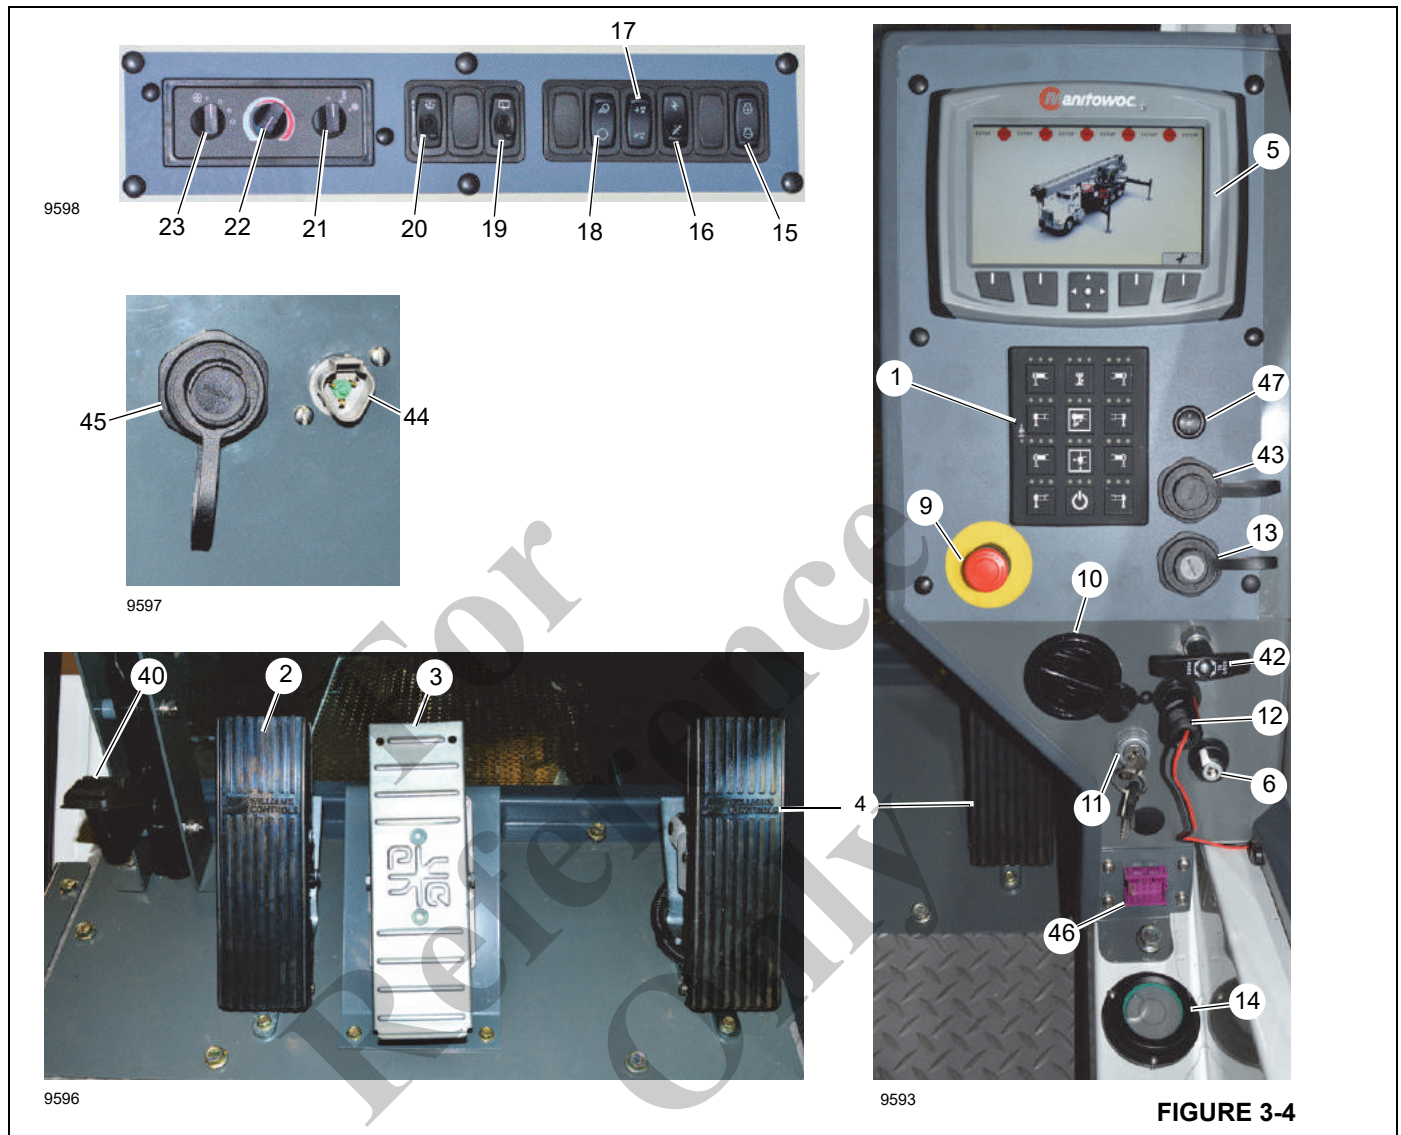
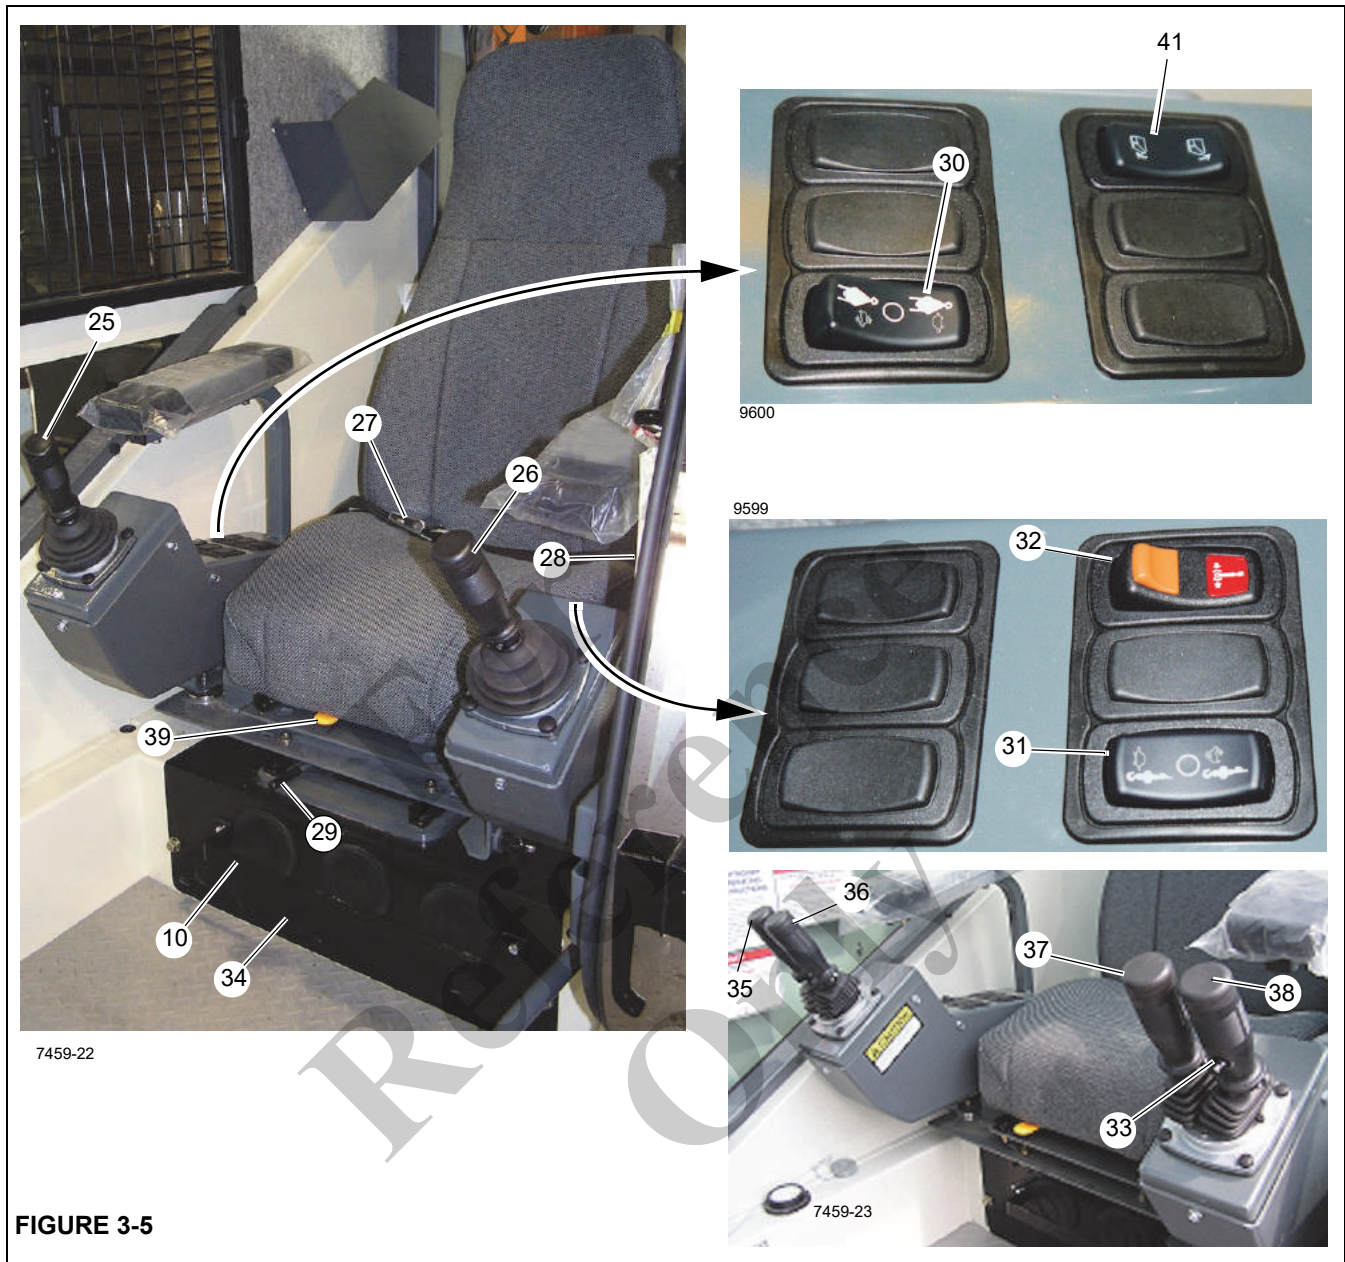

FIGURE 3-4
FIGURE 3-5
**NOTE:** The operator must be in the crane cab seat with left armrest lowered and crane power switch (Figure 3-4) ON for the crane cab outrigger controls to operate.
The crane controls are located in the crane cab and are used for all crane functions. See Figure 3-4 and Figure 3-5 for crane cab item number (#) identification. For best control response, run the engine at governed RPM when operating the crane.
The swing brake pedal (2, Figure 3-4) is located on the left side of the crane cab floor. Pressing the pedal down applies brake to the turret and prevents rotation. Releasing the pedal allows the turret to rotate freely.
The swing brake control switch (32, Figure 3-5) is located on the left seat armrest and is a two position switch, press forward to lock the swing brake. When the swing brake is locked, the swing brake indicator icon will be displayed on the crane cab RCL console display panel. Press and slide
The horn button (33, Figure 3-5) is located on the cab seat left joystick. The operator can use this horn to provide a warning that the superstructure is rotating.
The house lock (42, Figure 3-4) is used to lock the superstructure from rotating when the boom is over the front or over the rear of the crane. It consists of a push-pull handle on the console and house lock control pin. The house lock is useful for counterweight removal and assembly and should be engaged during transport.
If installed, the 360° swing brake pedal (40, Figure 3-4) is located on the far left side of the crane cab floor. The pedal is used to activate the swing lock assembly to prevent the turret from turning at any position. Pressing the pedal down applies brake to the turret and prevents rotation. Releasing the pedal allows the turret to rotate freely.
The crane is equipped with the boom telescope pedal only when the auxiliary hoist option is included. The telescope foot pedal (3, Figure 3-4) is located on the crane cab floor and is used to extend and retract the boom. Pushing down at the top of the pedal extends the boom out; pushing down at the bottom of the pedal telescopes the boom in.
The foot throttle (4, Figure 3-4) is located on the crane cab floor and is used to control the engine speed. Depress the foot throttle to accelerate the engine speed and release to return to idle.
The display panel (5, Figure 3-4) is for the Rated Capacity Limiter (RCL). For more information, see "Rated Capacity Limiter" on page 7-1.
The switch located on the front control panel is a momentary type switch (6, Figure 3-4). Turn the key to the On position (right) to disengage the RCL controls. Releasing the key allows the RCL controls to re-engage.
The crane emergency stop switch (9, Figure 3-4) is located on the cab console and is used to shut down the truck engine in an emergency. Push the red button in to shut down the engine, rotate the knob and pull out to resume normally operation.
The cab has air conditioner and heating vents (10, Figure 3-4), located on the control panel, behind the panel, under the seat, and at head level.
The crane ignition switch (11, Figure 3-4) is located on the crane cab console and controls the truck engine and crane cab power. The ignition switch has three positions:
This 12 volt accessory outlet (12, Figure 3-4) is located on the lower part of the front control panel and is designed to mate with most 12 volt adapter plugs.
The Display USB Port (13, Figure 3-4) is located on the front control panel. Use this port to install and update RCL display software.